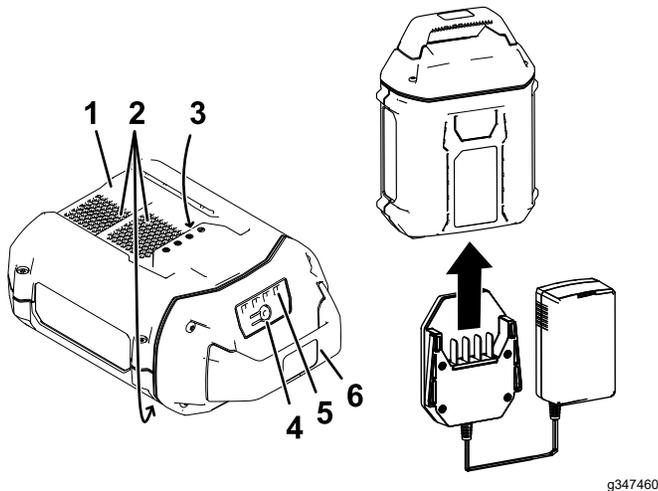

Figure 12
2. Line up the cavity in the battery pack (Figure 12) with the tongue on the charger.
3. Slide the charger into the battery pack until it is fully seated (Figure 12).